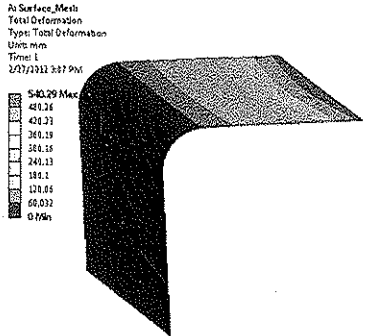

Figure 8-62 Total Deformation contours in the model
5. Select **Total Deformation** in the Tree Outline; the corresponding contours are displayed in the Graphics screen, as shown in Figure 8-62.